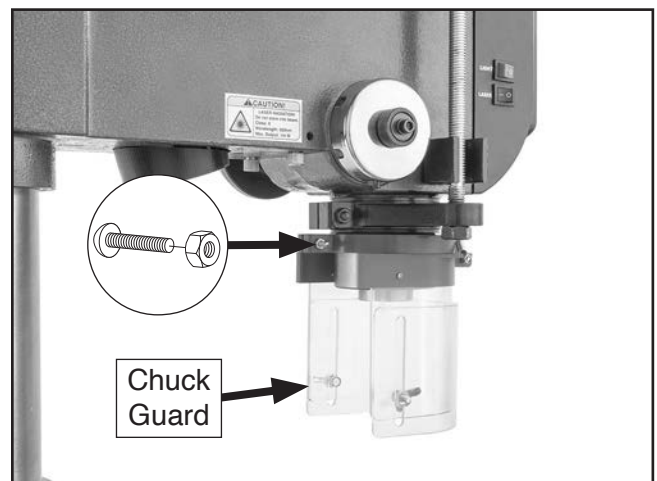

Figure 22. Chuck guard installed.
11. Place chuck guard over quill and secure by tightening Phillips head screw and hex nut (see **Figure 22**).